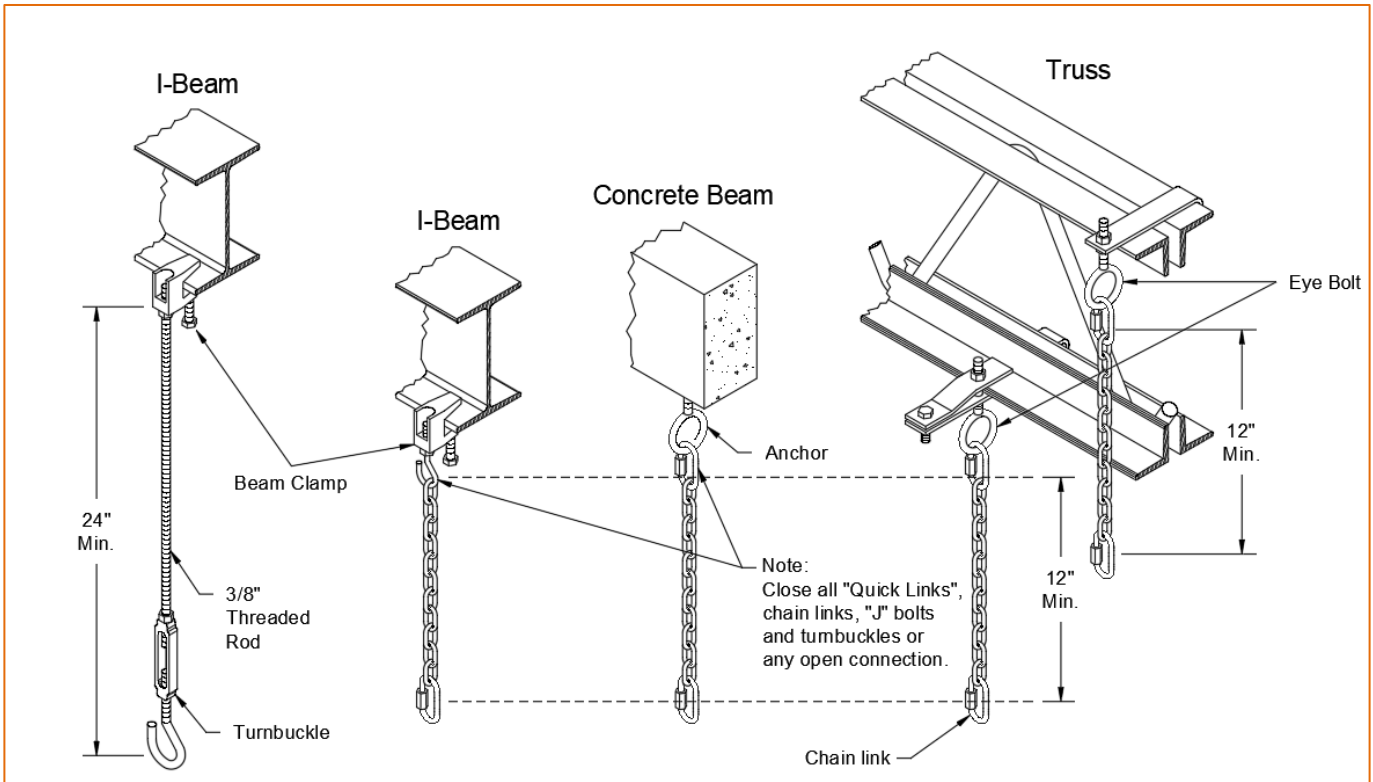

Figure 5: Suspension Mechanism
- Suspension mechanism must allow for lateral tubing expansion. A minimum 12" length welded link chain with a working load limit of at least 200 lbs. is recommended (refer to Figure 5 for more details). SRP recommends and make available "quick links" for connecting chain. If any open ended turnbuckles are used, the open ends must be closed to avoid unhooking chain with inadvertent contact.
- Install the tube and reflector support hanger on the chain with “Quick Links”; refer to Figures 5 & 6.